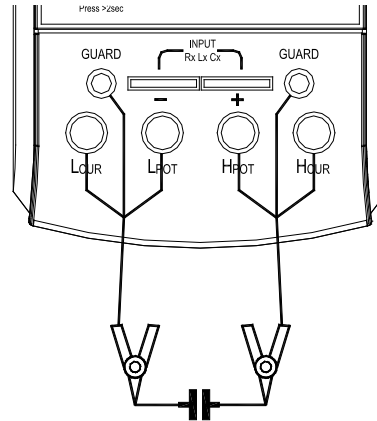

Figure 11
- b. Insert the black and red testing lines with alligator clip into the "L_{CUR}", "L_{POT}" terminal and "H_{CUR}", "H_{POT}" terminal respectively. Connect the alligator clips to the two ends of capacitance corresponding to its polarity (shown in figure 11).